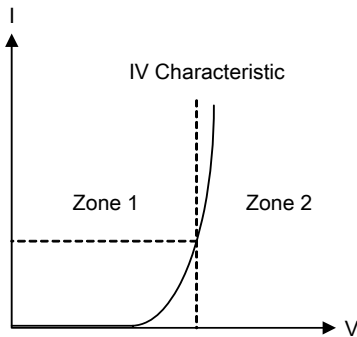

Figure 12
Enough bias current is required for a Schottky to act like a voltage source. Users should choose the appropriate  $R_{CS}$  based on the IV characteristic of the diode (Figure 12)
According to Figure 12, the forward voltage of diode will be different results from the different conduction current. So when the characteristic of diode in the circuit you design is in zone 1, this will result in Spec. mis-met. It is because when the  $V_{CORE}$  is changed during DVID, the node  $V_{CORE} - V_F$  is also changed to produce the differential conduction current of diode  $\Delta I$  and the  $\Delta I$  will result in producing the differential forward voltage of diode  $\Delta V_F$ . Referring to Equation (1). The  $\Delta V_F$  would get  $\Delta I_X$ . Then the  $V_{CORE}$  must be subtracted the extra voltage  $V_{(EXT)}(\Delta I_X \times R_{ADJ})$  during DVID. So you will get the  $\Delta V_{CORE} = V_{(MAX)} - V_{(MIN)} - V_{(EXT)}$  during DVID tests. In order to reduce the effect results from diode. The better choice is to decrease the  $R_{CS}$  to increase the conduction current of diode  $I$  to get better  $V$  characteristic of diode in Zone 2.